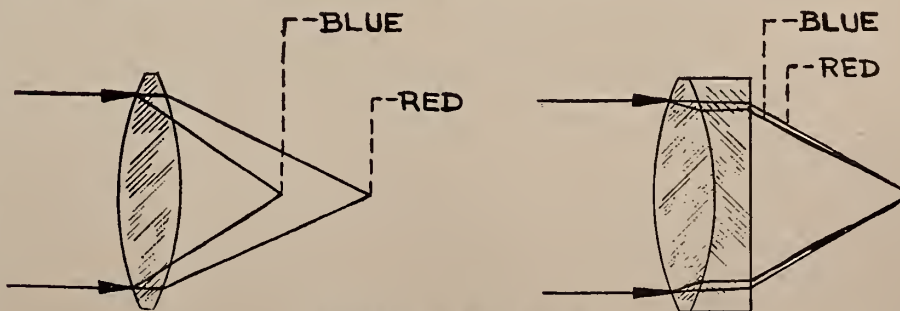

FIGURE 1. A (left); B (right).
"White light" is actually composed of radiation in a number of different colors, each of a distinctive wave-length. When passed through a refracting surface, such as that of a lens or prism, the rays of different colors are bent to a varying extent. Thus, in Fig. 1 (A) the red light, of longer wave-length, is refracted to a lesser degree than the blue light. This phenomenon, called "dispersion," is the cause of color fringes in an image formed by an uncorrected lens.
To correct this color aberration the lens designer employs an achromatic lens such as is shown in Fig. 1 (B). The lens comprises two elements, each of a